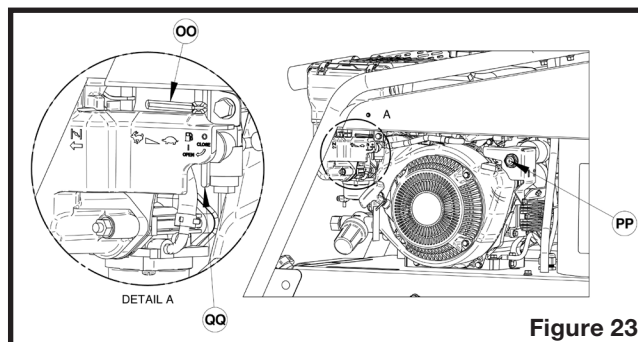

Figure 23
5. Move the throttle lever (OO on figure 23) completely to the right.
7. Turn off the engine switch (PP on figure 23).
8. Turn right the fuel valve (QQ on figure 23) to close.